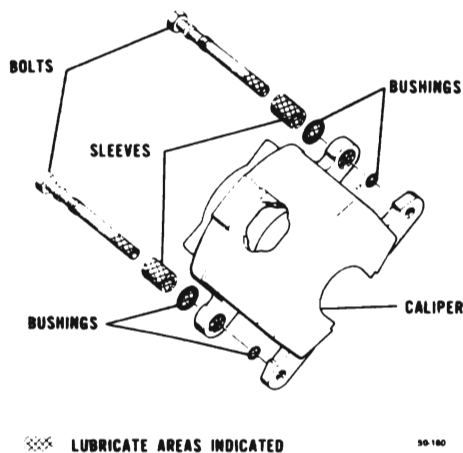

Figure 50-36--Lubrication
1. Using Buick Silicone Lube, No. 1050243, lubricate new sleeves, on all surfaces. Lubricate new rubber bushings, bushing grooves and the small ends of bushings in all four caliper ears. See Figure 50-36. Install rubber bushings in all four caliper ears.